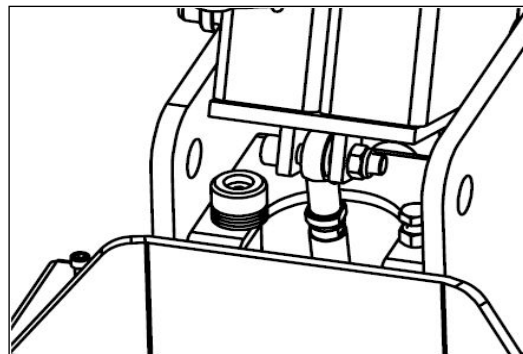

FIG 12
- e) The condition after installation is like FIG12.